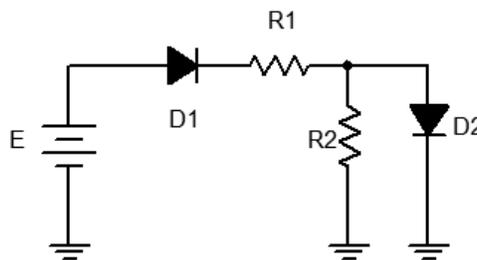

Figure 3
7. Consider the circuit of Figure 3 using  $E = 12$  volts,  $R_1 = 10\text{ k}\Omega$  and  $R_2 = 4.7\text{ k}\Omega$ . Analyze the circuit using the ideal 0.7 volt forward drop approximation and determine the voltages across the two resistors. Record the results in the first two columns of the first row (Variation 1) of Table 3.
8. Build the circuit of Figure 3 using  $E = 12$  volts,  $R_1 = 10\text{ k}\Omega$  and  $R_2 = 4.7\text{ k}\Omega$ . Measure the voltages across the two resistors. Record the results in columns three and four of the first row (Variation 1) of Table 3. Also compute and record the percent deviations in columns four and five.